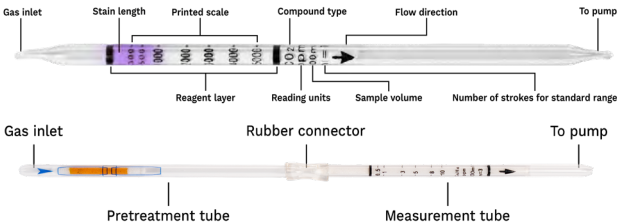

Figure 2. Gas detection tube parts description.
1. Tube and Box. Figure 2 illustrates the key components of a WatchGas gas detection tube. The tubes are typically packaged in boxes of 10. Each box contains quick instructions on the back. Some tubes require preconditioning of the gas and are packaged with 5 pretreatment tubes and 5 measurement tubes, allowing for a total of 5 measurements. The concentration scale is printed directly on the tube, with an arrow indicating the direction in which the gas must enter. The standard volume is 100 mL.